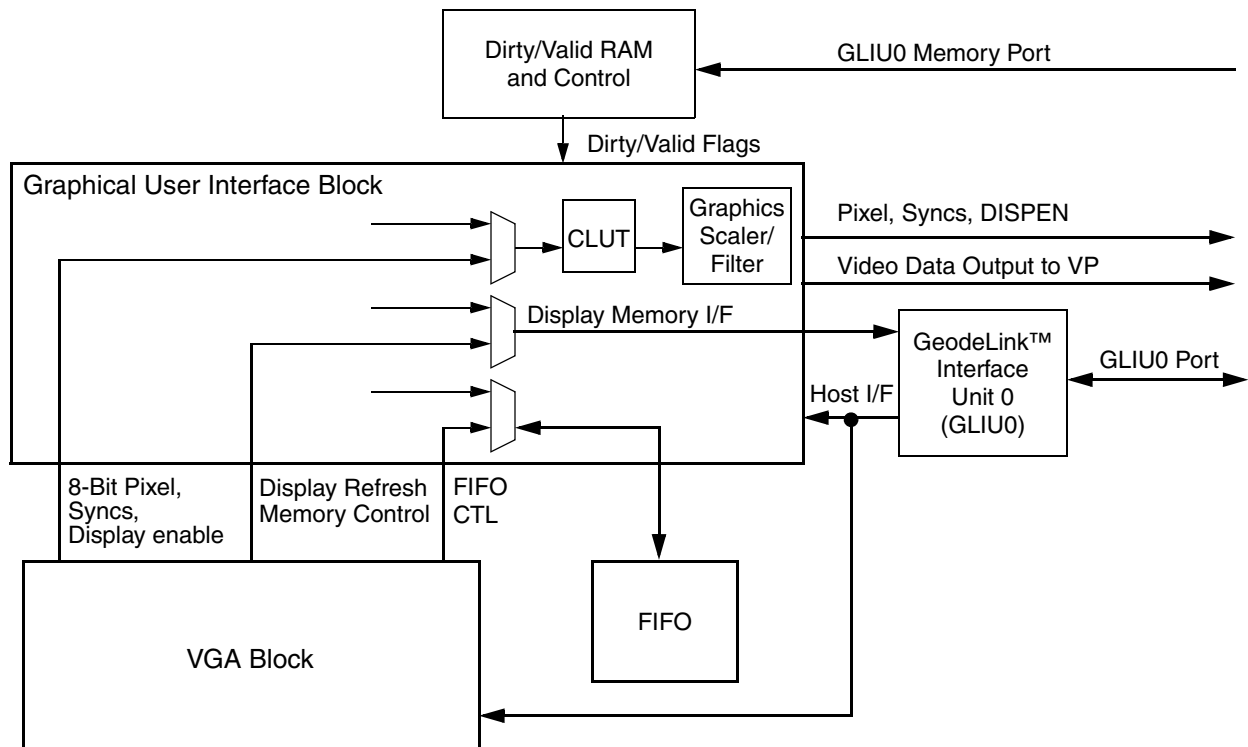

Figure 6-12. Display Controller High-Level Block Diagram
The DC module consists of a GUI (Graphical User Interface) block, a VGA block, and back-end scaling/filter. The GUI is compatible with the Display Controller found in the GX processor. The VGA block provides hardware compatibility with the VGA graphics standard. The GUI and VGA blocks share a single display FIFO and display refresh memory interface to the memory controller. The VGA block passes 8 bpp and syncs to the GUI, which expands the pixels to 24 bpp via the CLUT (color lookup table). The VGA block also passes the information to the graphics filter for scaling and interlaced display support. This stream is then passed to the Video Processor (VP), which is used for video overlay. The VP forwards this information to the DAC (Digital-to-Analog Converter), which generates the analog red, green, and blue signals and buffers the sync signals, that are then sent to the display. The VP output can also be rendered as YUV data that can be output on the Video Output Port. The DC block diagram is shown in Figure 6-12.